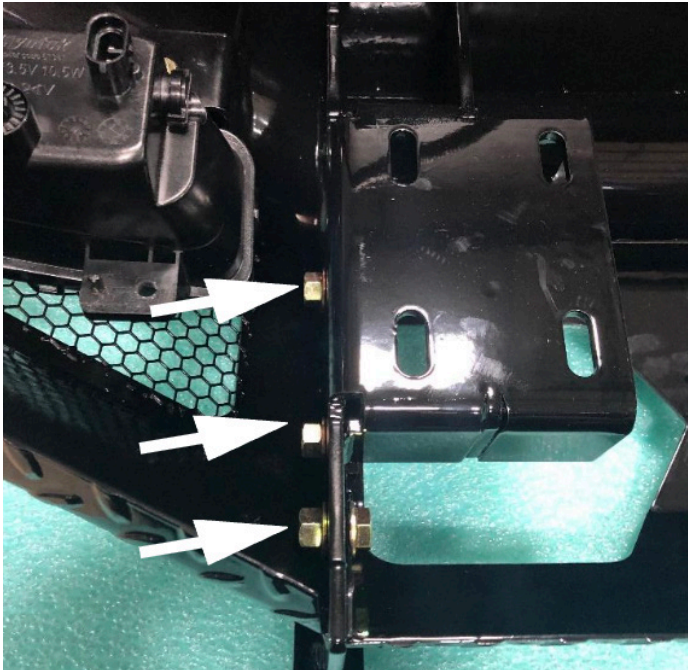

Figure 13
14. Take the lower guard (21983) and install it into the bumper using 3/4" socket wrench with the six (6) 1/2"-13 x 1" bolts flat and lock washers with nuts (20260-HW). (Figure 13)